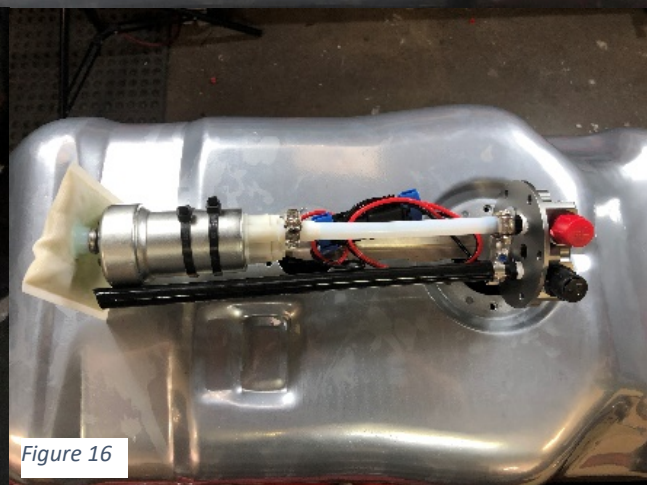

Figure 16
8. Locate the pump against the support bracket and secure into position with two Tie Wraps (Items 15). Make sure Tie Wraps are pulled tight. See Figure 16. Plug the electrical connector onto the fuel pump.
4. Locate the pump against the metal support bracket and secure into position with two Tie Wraps (Items 15). Make sure Tie Wraps are pulled tight. (Figure 16) Plug the electrical connector onto the fuel pump.
5. Place the Foam Gasket (Item 2) over the (6) holes in the Tanks Inc. fuel tank. Align the holes.
6. Insert Pump Assembly into tank. Align holes in the top cap of the main assembly with the holes in the gasket and tank. Carefully install O-Rings into the (6) machine screws (Item 7) and thread them through the main assembly, gasket, and into the threaded holes in the tank. Tighten securely using a crisscross pattern to assure they are tightened evenly.